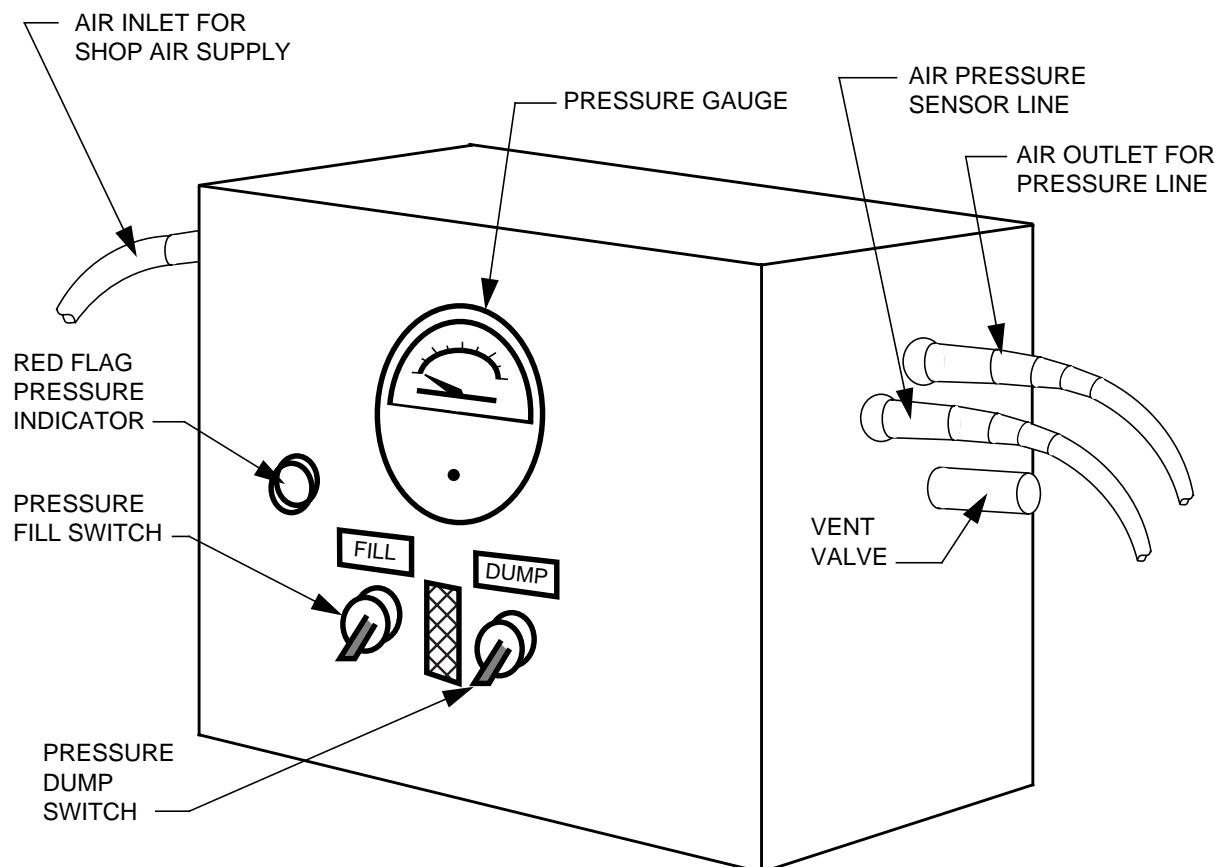

Figure 1 - Pressure Test Rig Components
- 4.2.1 Pressure test rig, tool #85710001-001-141 or #85710001-003-141 (see Figure 1). Do not use any other rigs to pressure test DASH 8 fuel tanks.